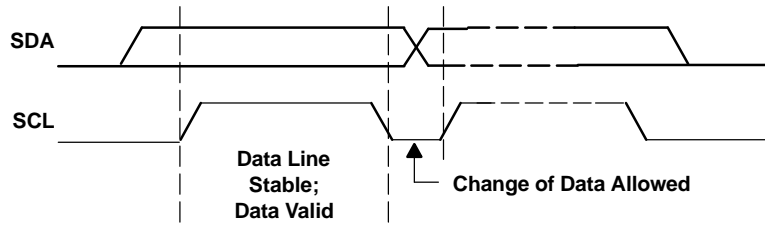
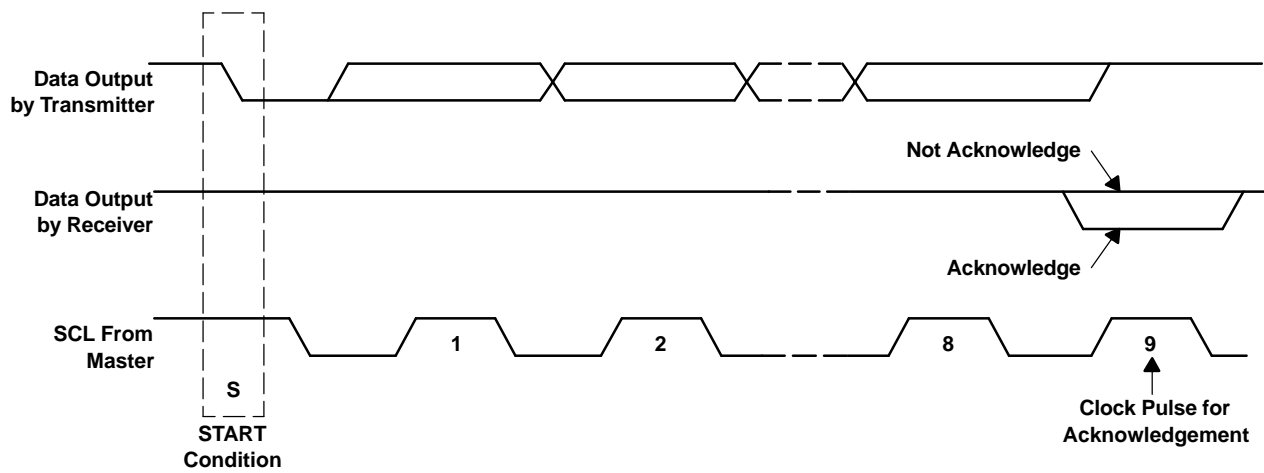

Figure 30. Bit Transfer on the I²C Bus
Figure 31. Acknowledge on the I²C Bus
- The master then generates the SCL pulses, and transmits the 7-bit address and the *read/write direction bit* R/W on the SDA line. During all transmissions, the master ensures that data is *valid*. A *valid data condition* requires the SDA line to be stable during the entire high period of the clock pulse (see Figure 30). All devices recognize the address sent by the master and compare it to their internal fixed addresses. Only the slave device with a matching address generates an *acknowledge* (see Figure 31) by pulling the SDA line low during the entire high period of the 9th SCL cycle. Upon detecting this acknowledge, the master knows that communication link with a slave has been established.